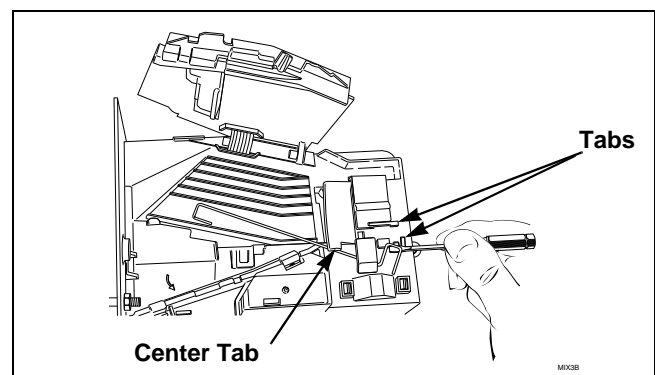

Figure 5
6. Rotate spring clockwise, 40 to 60 degrees, until it is free from right tabs. Refer to *Figure 5*.
7. Use screwdriver to remove spring from center tab. Refer to *Figure 5*.